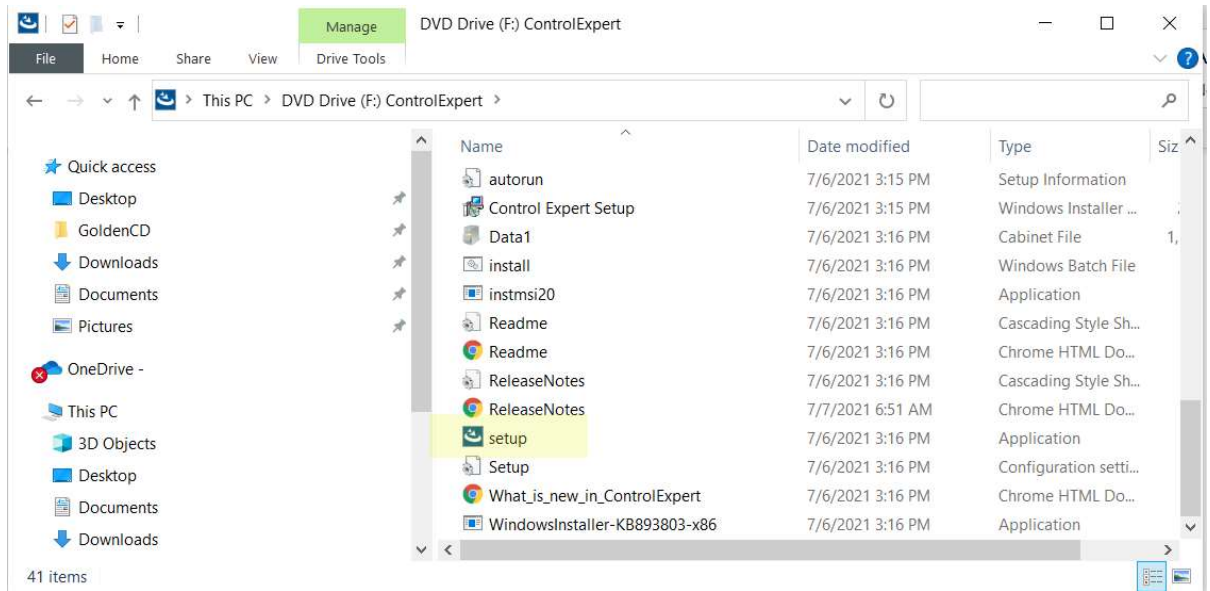

Figure 5. – Control Expert setup.
- Install Control Expert 15.0, SP1 by double clicking on Setup (See Figure 5.).